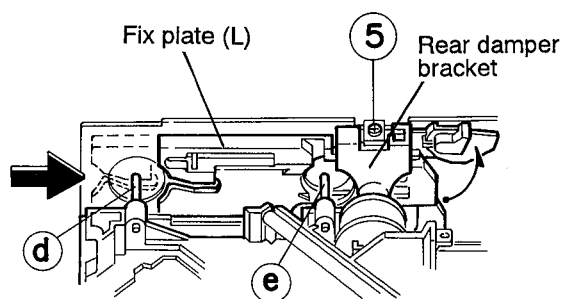

Fig. 4-17
2. While shifting the fix plates on the right and left sides respectively to the arrow direction, lower the entire CD mechanism. When the shafts (㉔, ㉕, ㉖ and ㉗) on both the right and left sides have been set free as shown in Figs. 4-17 and 4-18, then the assembly can be removed easily. Remove the two screws ⑤ retaining the rear damper bracket to make it easier to remove the damper from the rear damper bracket (See Figs. 4-10, 4-17 and 4-18).